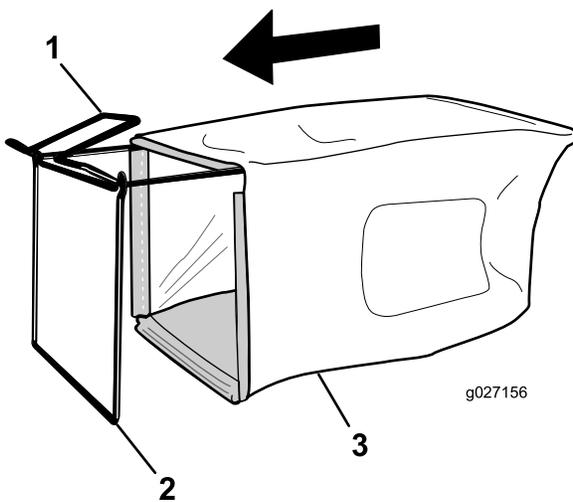

Figure 11
1. Slip the grass bag over the frame as shown in Figure 11.
**Note:** Do not slip the bag over the handle (Figure 11).